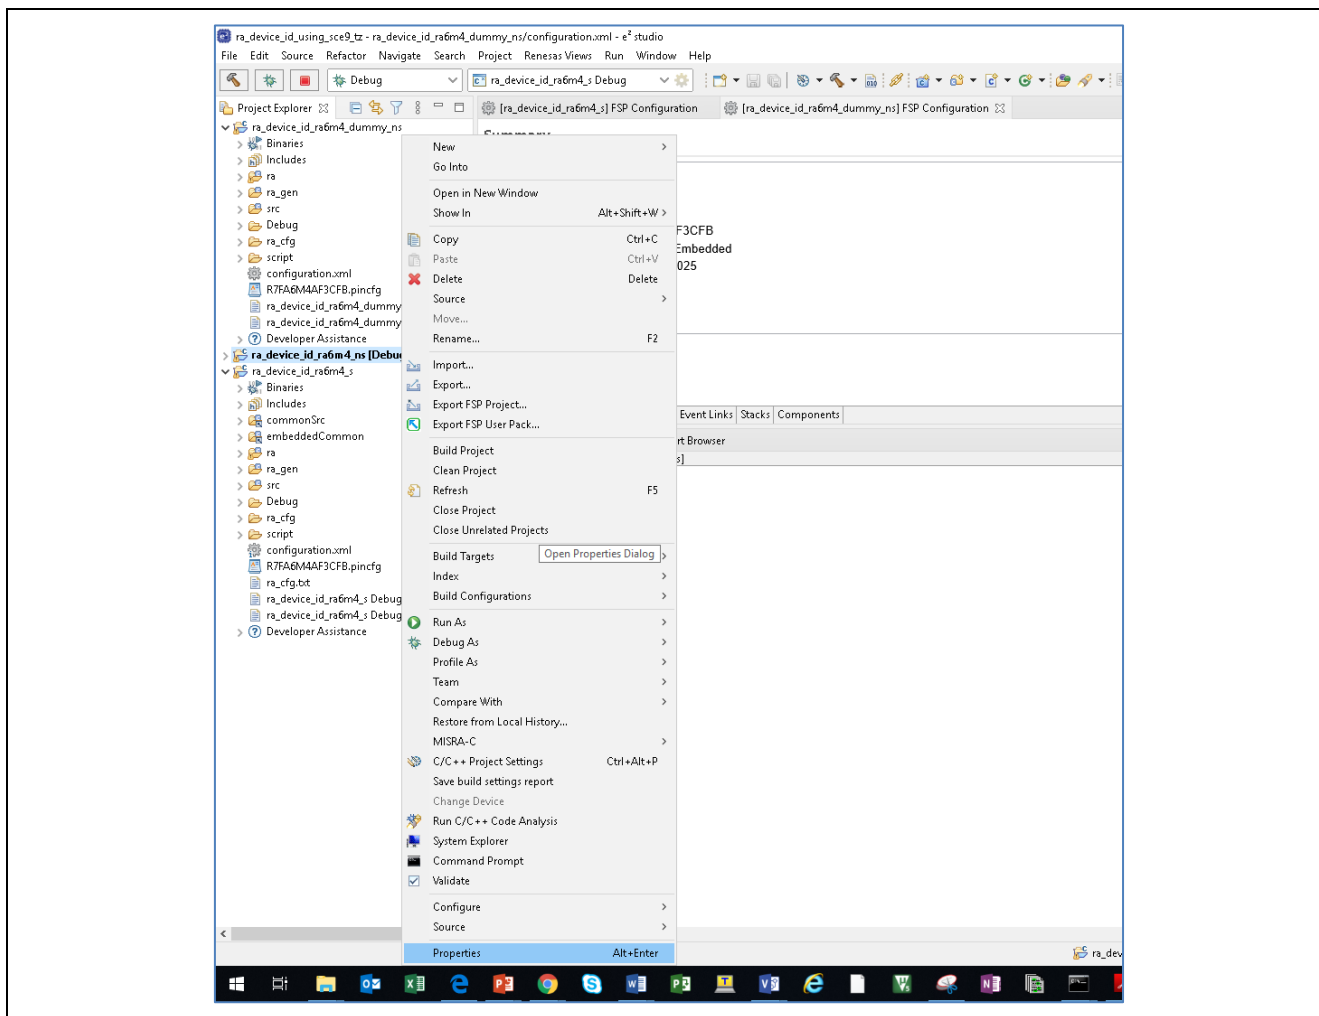

Figure 11. Open the Properties Menu
- A. Update the matching secure bundle based on current project folder location. The secure bundle is linked as an absolute path. Right click on ra_device_id_ra6m4_ns project and select **Properties** as shown in Figure 11.